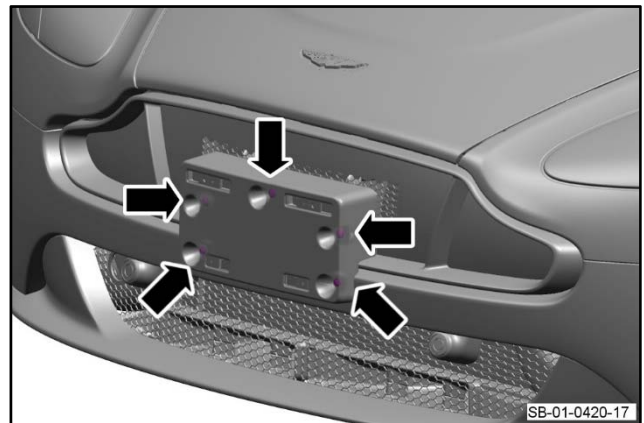

Figure 17
8. Install the five screws that attach the license plate plinth to the bolster plate (refer to Figure 17)